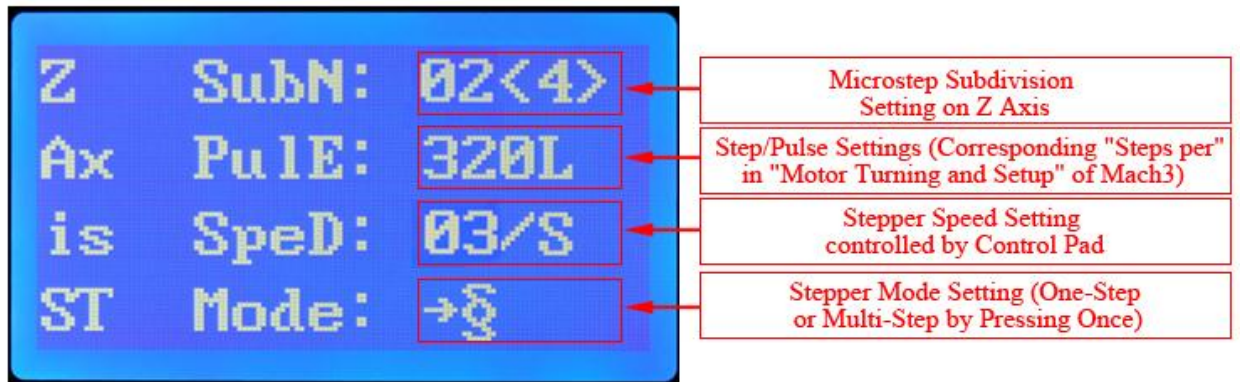

Figure 7: Z Axis Running Parameters Setting
- After finishing “Y Axis Running Parameters Setting”, please press the “ST” key on control pad again to skip to the “Z Axis Running Parameters Setting” in “Figure 7”.